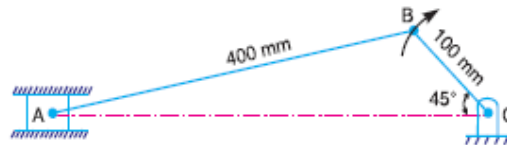

Figure 2.1
- Q.2** (a) Locate all the instantaneous centers of the slider crank mechanism as shown in Fig. 2.1. The lengths of crank OB and connecting rod AB are 10 cm and 40 cm respectively. If the crank rotates clockwise with an angular velocity of 10 rad/s, find: 1. Velocity of the slider A, and 2. Angular velocity of the connecting rod AB. **07**